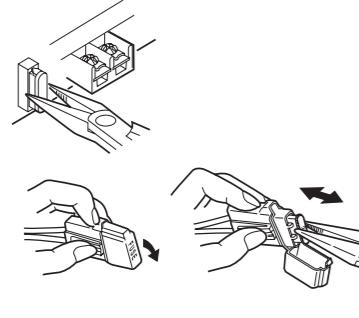

Figure 10 / 그림 10
- 3. If the fuse should blow, check that the wiring is correct. If it is, replace the fuse with a new one with the same amperage rating as the original one. (Figure 10)
- 3. 如果保险丝烧断, 请检查接线是否正确。如果接线正确, 则请用原来保险丝额定安培数相同的新型保险丝更换。(图 10)